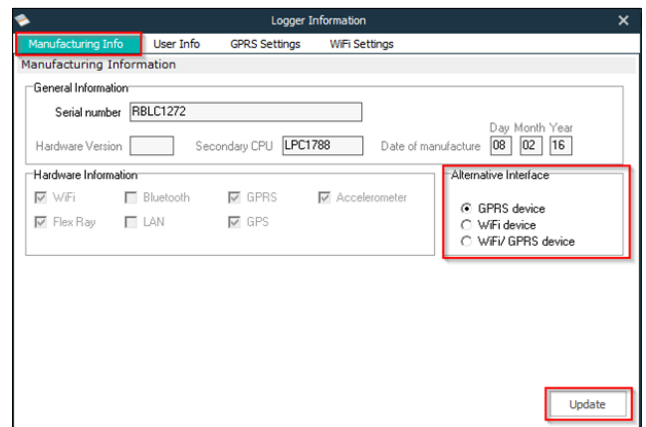

Figure 11
3. Open the “Manufacturing Info” tab and make sure that “Alternative Interface” is set to “GPRS device” or “WiFi/GPRS device” (refer to Figure 11).